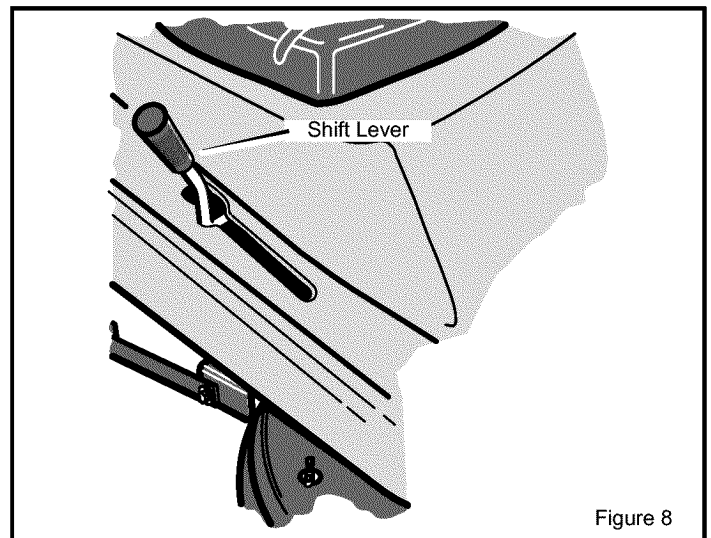

Figure 8
2. Move the shift lever to one of the TWO FORWARD positions (see Figure 8). Select Low position (TRIM) when going up or down steep hills and when operating attachments that require a very slow forward speed. Select High position (MOW) when mowing or when transporting the unit.
3. To go forward, move the shift lever to one of the TWO FORWARD positions (see Figure 8). To go backward, move the shift lever to the REVERSE position.
3. Move the shift lever to the REVERSE position (see Figure 8).